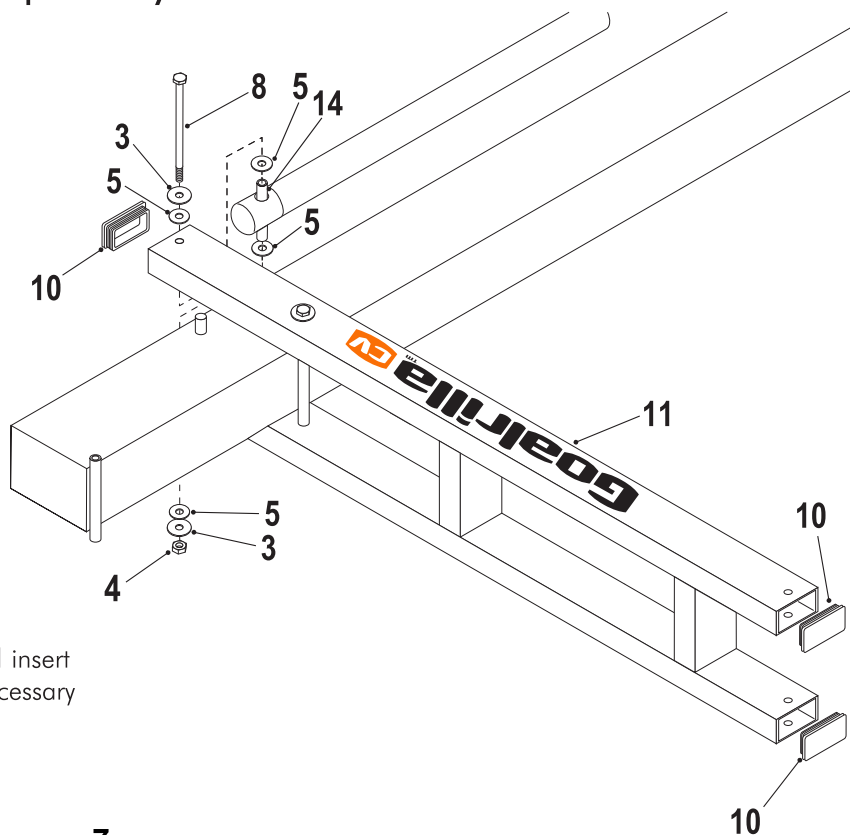

Figure 6
5. Secure Actuator (#16) to Lower Arm (#11) using one bolt (#8), two flatwashers (#3), four plastic washers (#5) and one locknut (#4). See Figure 6. Tighten both bolts (#8) **snug but, do not over tighten. Board Arms must pivot freely.**